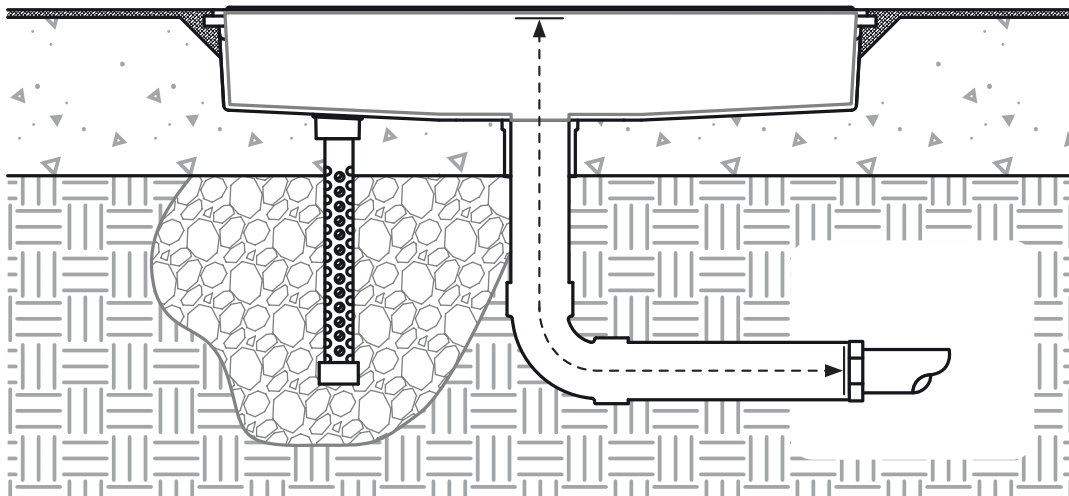

Figure 6
- If a reduction in pipe size is made during the plumbing installation, a minimum distance of 40" (762mm) is required before the reduction can be made (Figure 6). However, it is highly recommended to use the same pipe size or higher for the full run to the pump.